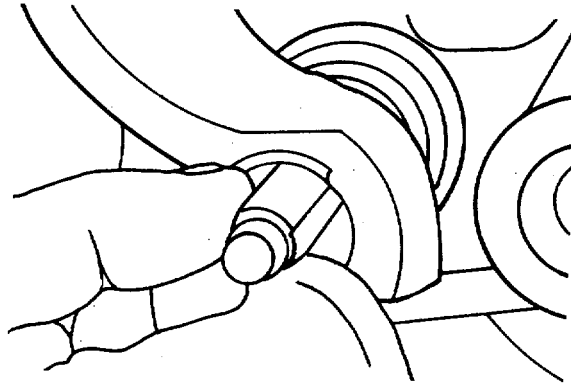
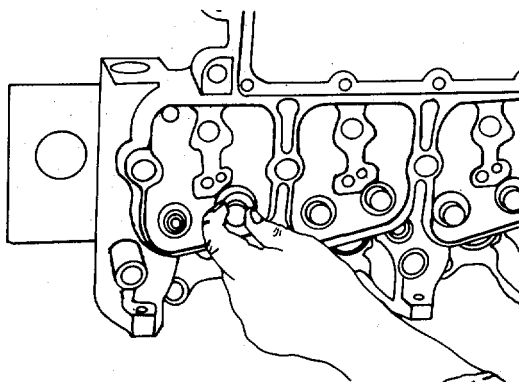
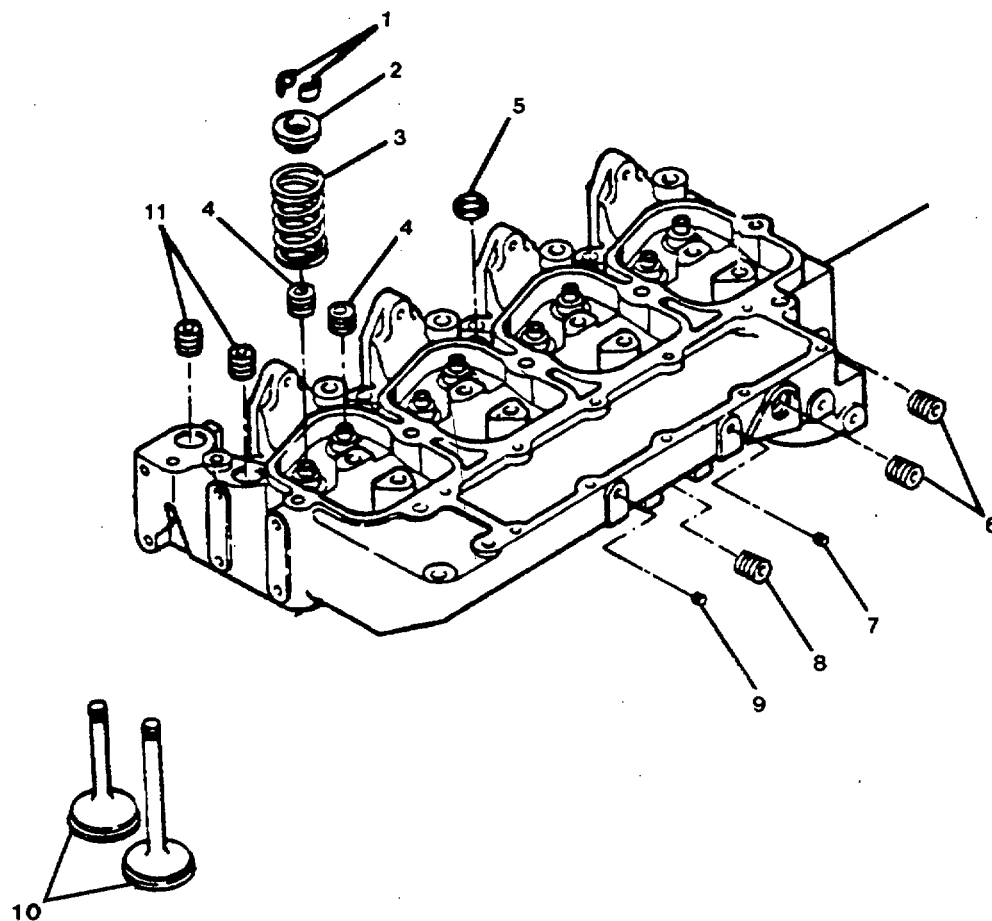

FIGURE 4-4. Removing Valve Stem Collets.
FIGURE 4-6. Removing Valve Stem Seals.
FIGURE 4-8. Cylinder Head.
- c. Compress the valve spring (3, FIGURE 4-8) and remove the valve stem collets (1) as shown in FIGURE 4-4.
- d. Release valve spring and remove the retainer (2, FIGURE 4-8) spring (3) and valve (10) as shown in FIGURE 4-8.
- e. Remove the remaining collets (1, FIGURE 4-8), retainers (2), springs and valves (10).
- f. Remove the valve stem seals (4, FIGURE 4-8) as shown in FIGURE 4-6.
- g. Remove pipe plugs (6, 7, 8, 9, and 11, FIGURE 4-8).